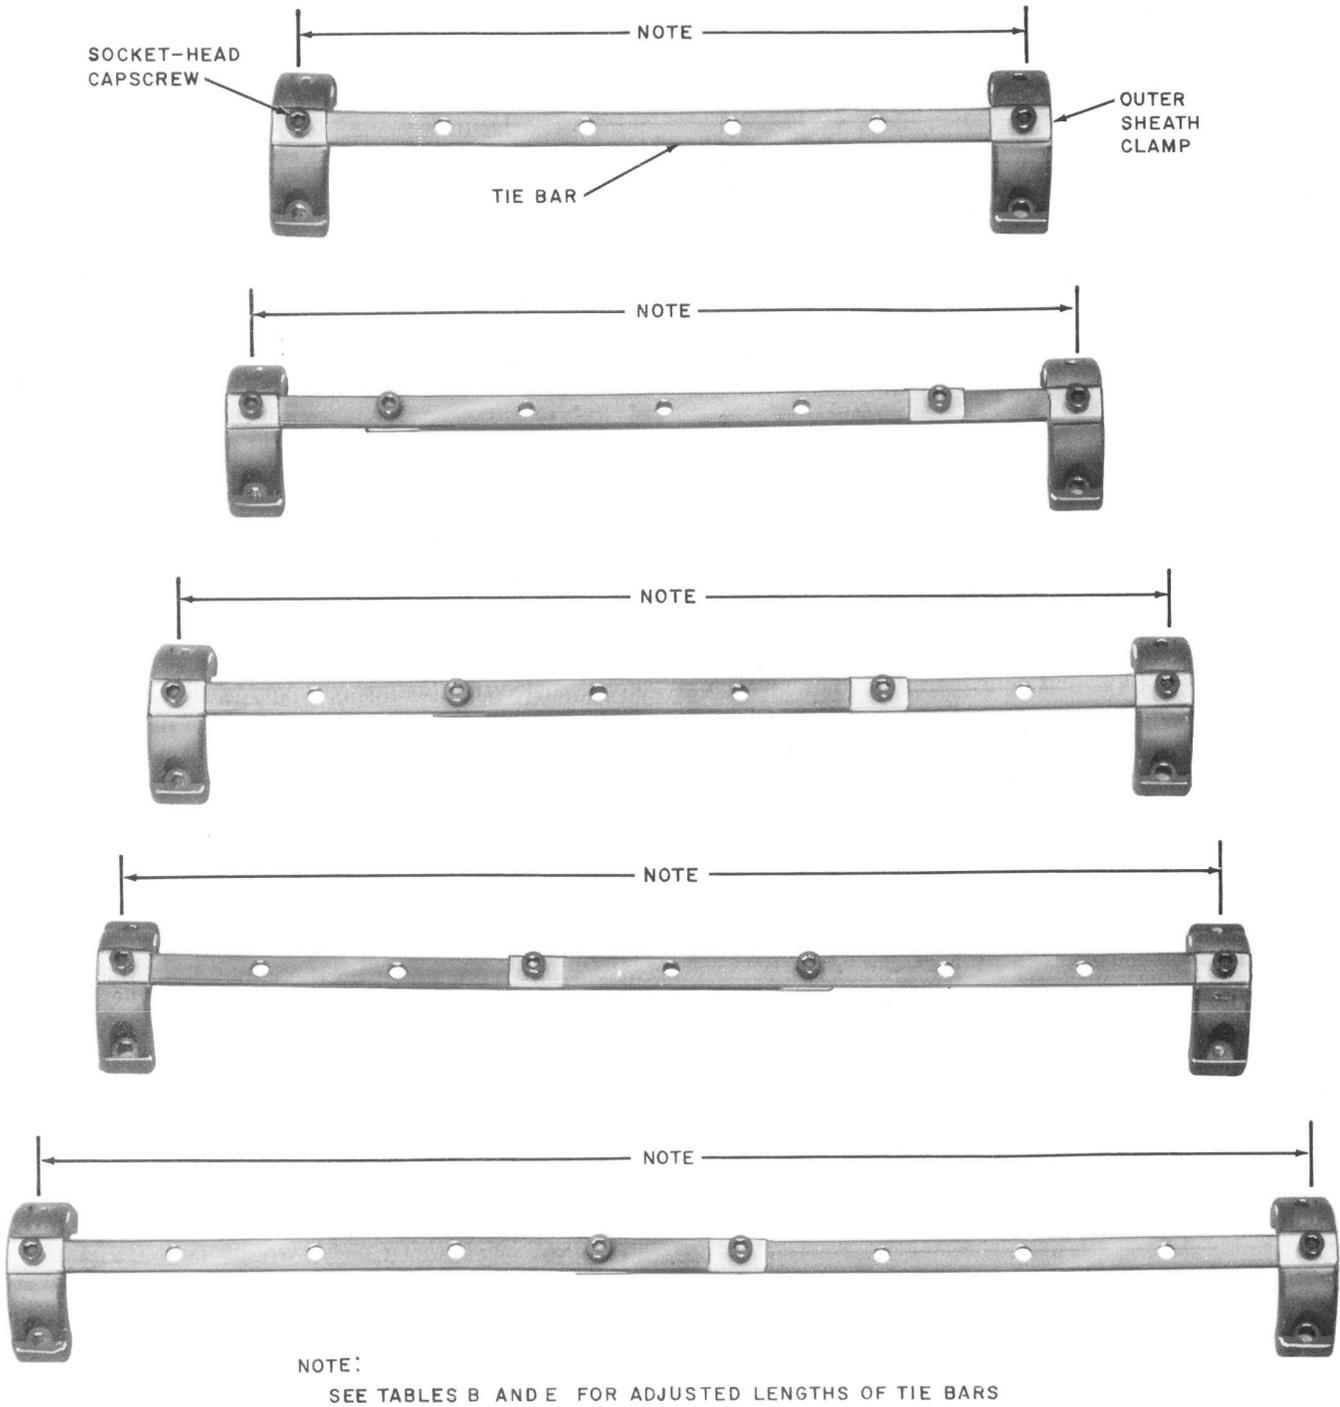

Fig. 3—Tie Bar Lengths
- (c) **Inner Sheath Clamps, (2):** Used under the metallic shield at each end of the sheath opening to provide shield continuity through the outer sheath clamps and metal tie bars. They are stainless steel with a chamfered corner on one ear.
- (d) **Outer Sheath Clamps, (2):** Used over the inner sheath clamps at each end of the sheath opening. They make metal-to-metal contact with the inner sheath clamp and metal tie bars to provide shield continuity across the opening. Also, in conjunction with the inner sheath clamp provide mechanical protection against pull out.
- (e) **Metal Tie Bars, (4):** Used across the sheath opening in conjunction with the inner and outer sheath clamps to provide shield continuity. They also provide mechanical protection against pull outs and rigidity to the sheath opening. Each tie bar has 5 holes for adjustments to the required sheath opening (Fig. 3 and Table B).
4.02 Establish the length of the sheath opening as determined by the adjusted length of the tie bars (Fig. 3 and Table B).
5.02 Establish the length of the outer sheath opening as determined by the adjusted length of the tie bars (Fig. 3 and Table E).